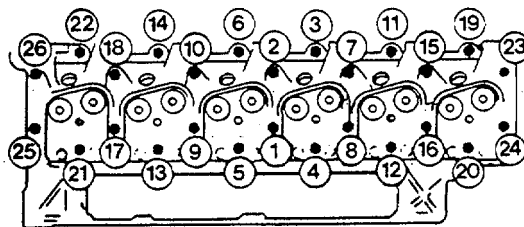

FIGURE 2-40. Torque Sequence
2-40. **Replace/Repair Cylinder Head Group.** (FIGURES 2-40 and 2-41)
- b. Carefully put the cylinder head (3) on the block and seat it onto the gasket.
- e. Tighten capscrews in sequence as illustrated in FIGURE 2-40. Torque in three steps as follows.